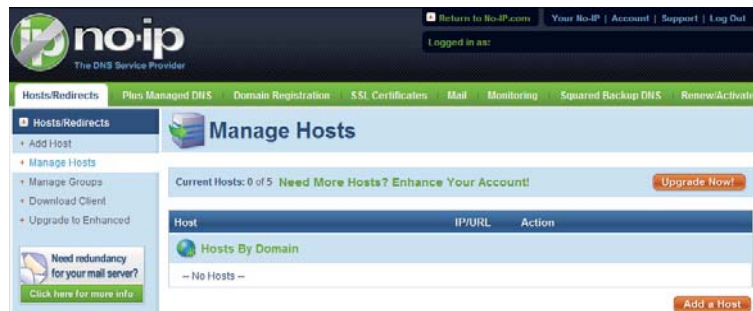

Figure 14-7
7. The Manage Hosts interface is shown as in Figure 14-7. Click the Add Host button you can access the creation of a domain name.